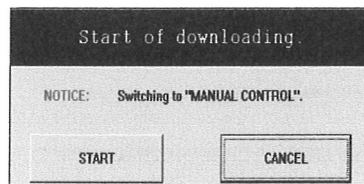

Fig.64
- ① By confirming the parameters currently in the flowmeter, make sure that the flowmeter is the very one subject to downloading before you start downloading. If you want to retain the parameters, follow the instructions outlined in "3.11.2 Save File".
- ① Following the process of confirming the flowmeter of interest, read the data you want to download according to the procedure outlined in "3.11.1 Open File".
- ③ Click on "File (F)" at top-level menu of the screen, select "Database (F)", select "Download (T)" and click on again.
- ④ On seeing a message box like the one shown in Fig. 64, click on "START" button if you want to download data into the transmitter.